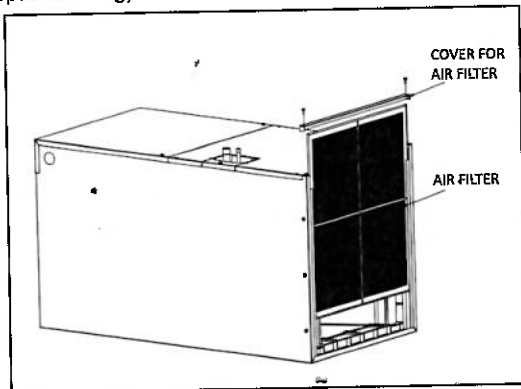

FIGURE 6: Remove The Air Filter
1. Tear down the two bolts signed A and B, take down the cover for air filter, see in Figure 6.